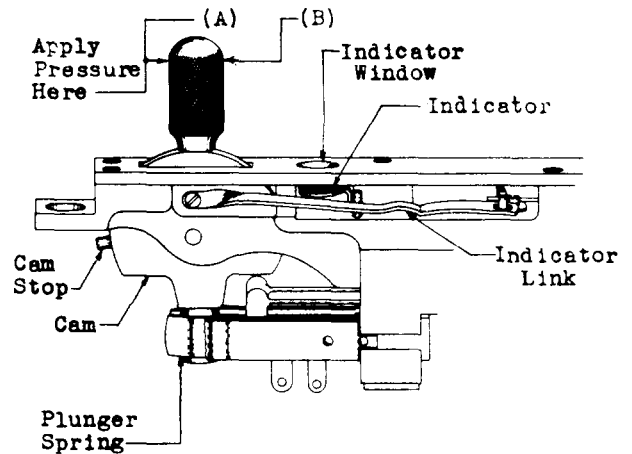

Fig. 8
**2.15 Lever Operate Pressure - Fig. 8 (A) -** The pressure required to operate a lever shall be:
**2.16 Lever Release - Fig. 8 (B) -** The pressure required to restore the lever